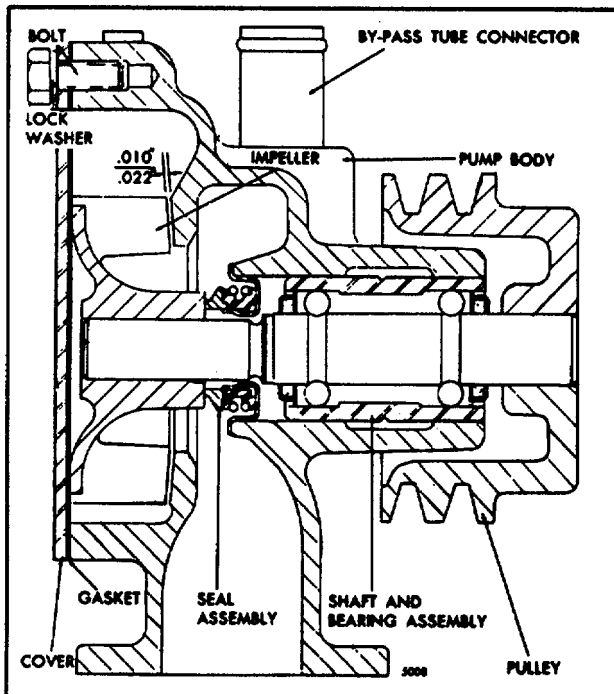

Fig. 1 - Water Pump Assembly
A centrifugal-type water pump (Fig. 1) is mounted on top of the engine oil cooler housing as shown in Fig. 2. It circulates the coolant through the oil cooler, cylinder block, cylinder head(s) and radiator.
2. Lightly coat the outside diameter of the new seal with sealing compound. Then, with the face of the body and the bearing outer race supported, install the seal by applying pressure on the seal outer flange only, until the flange contacts the body (Fig. 1). Wipe the face of the seal with a chamois to remove all dirt and metal particles.